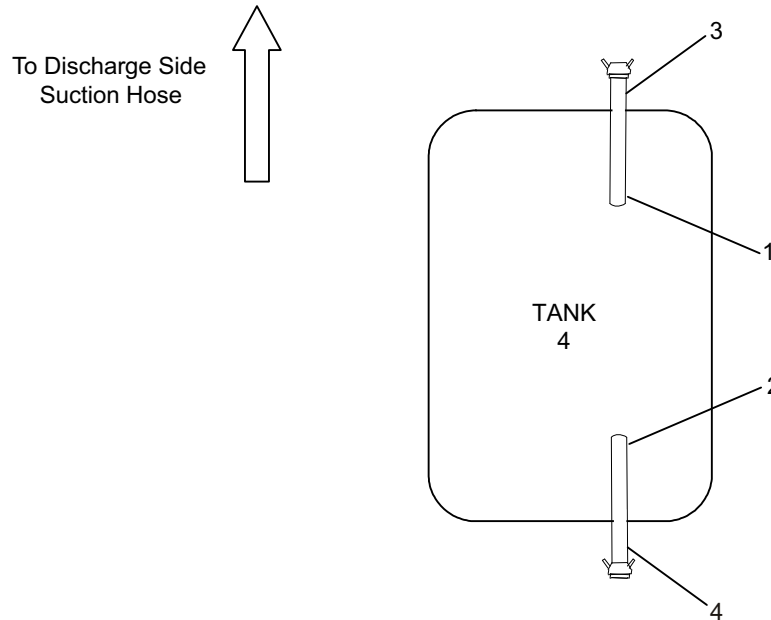

Figure 1. Fuel Tank.
8. Connect tank suction hoses (Figure 1, Items 3 and 4) to the tank receipt and discharge elbows (Figure 1, Items 1 and 2).